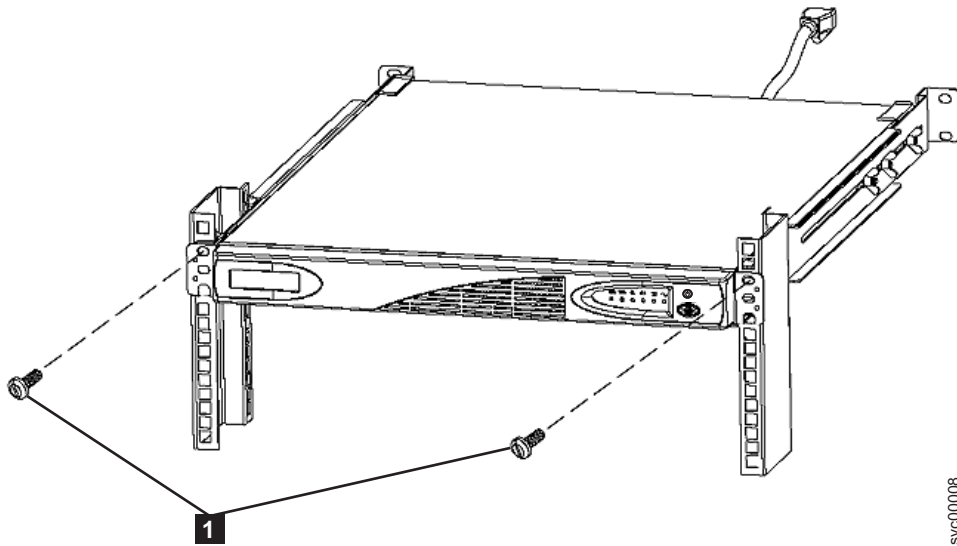

Figure 315. Mounting screws for the 2145 UPS-1U
4. At the front of the 2145 UPS-1U, install the two mounting screws ( **1** in Figure 315 on page 311).